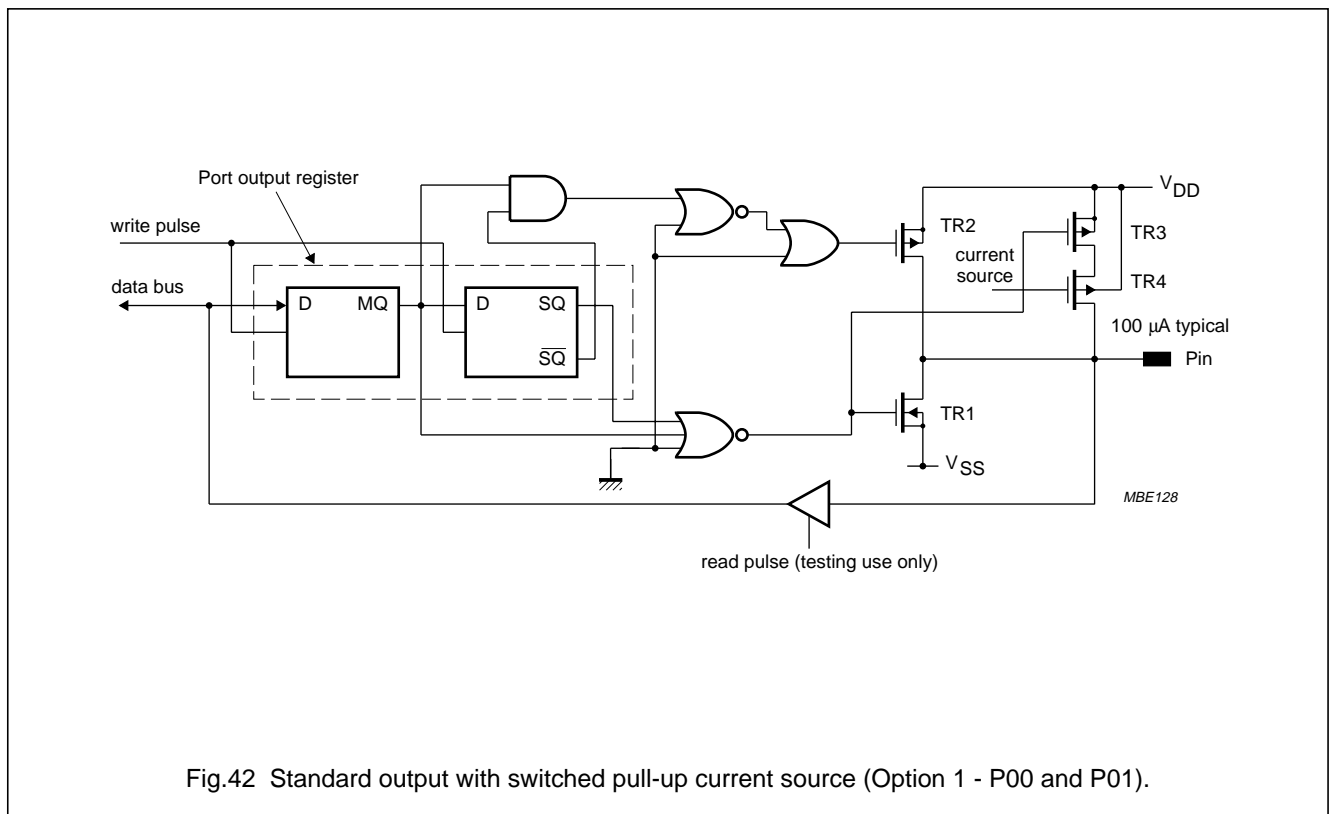

Fig.42 Standard output with switched pull-up current source (Option 1 - P00 and P01).
- Option 1: Standard output with switched pull-up current source. See Figs 42 and 45.